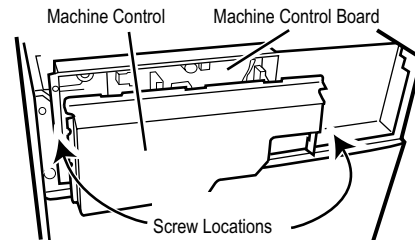

Figure 10. Accessing the machine control electronics
5. Referring to Figure 10, loosen the 4 screws for cover, then slide cover to the right and out from the machine control board.